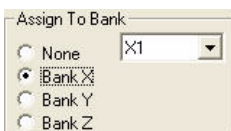

FIG. 89 Assign to Bank window
1. Choose **Button 1** to configure (in the *System window*), and select **Button> Bank Assign**. This invokes the *Assign to Bank* window (FIG. 89):